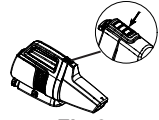

Fig 3.4
**Note:** When removing the vacuum body cover (3), press the spring button to release the vacuum body cover. See fig 3.4.